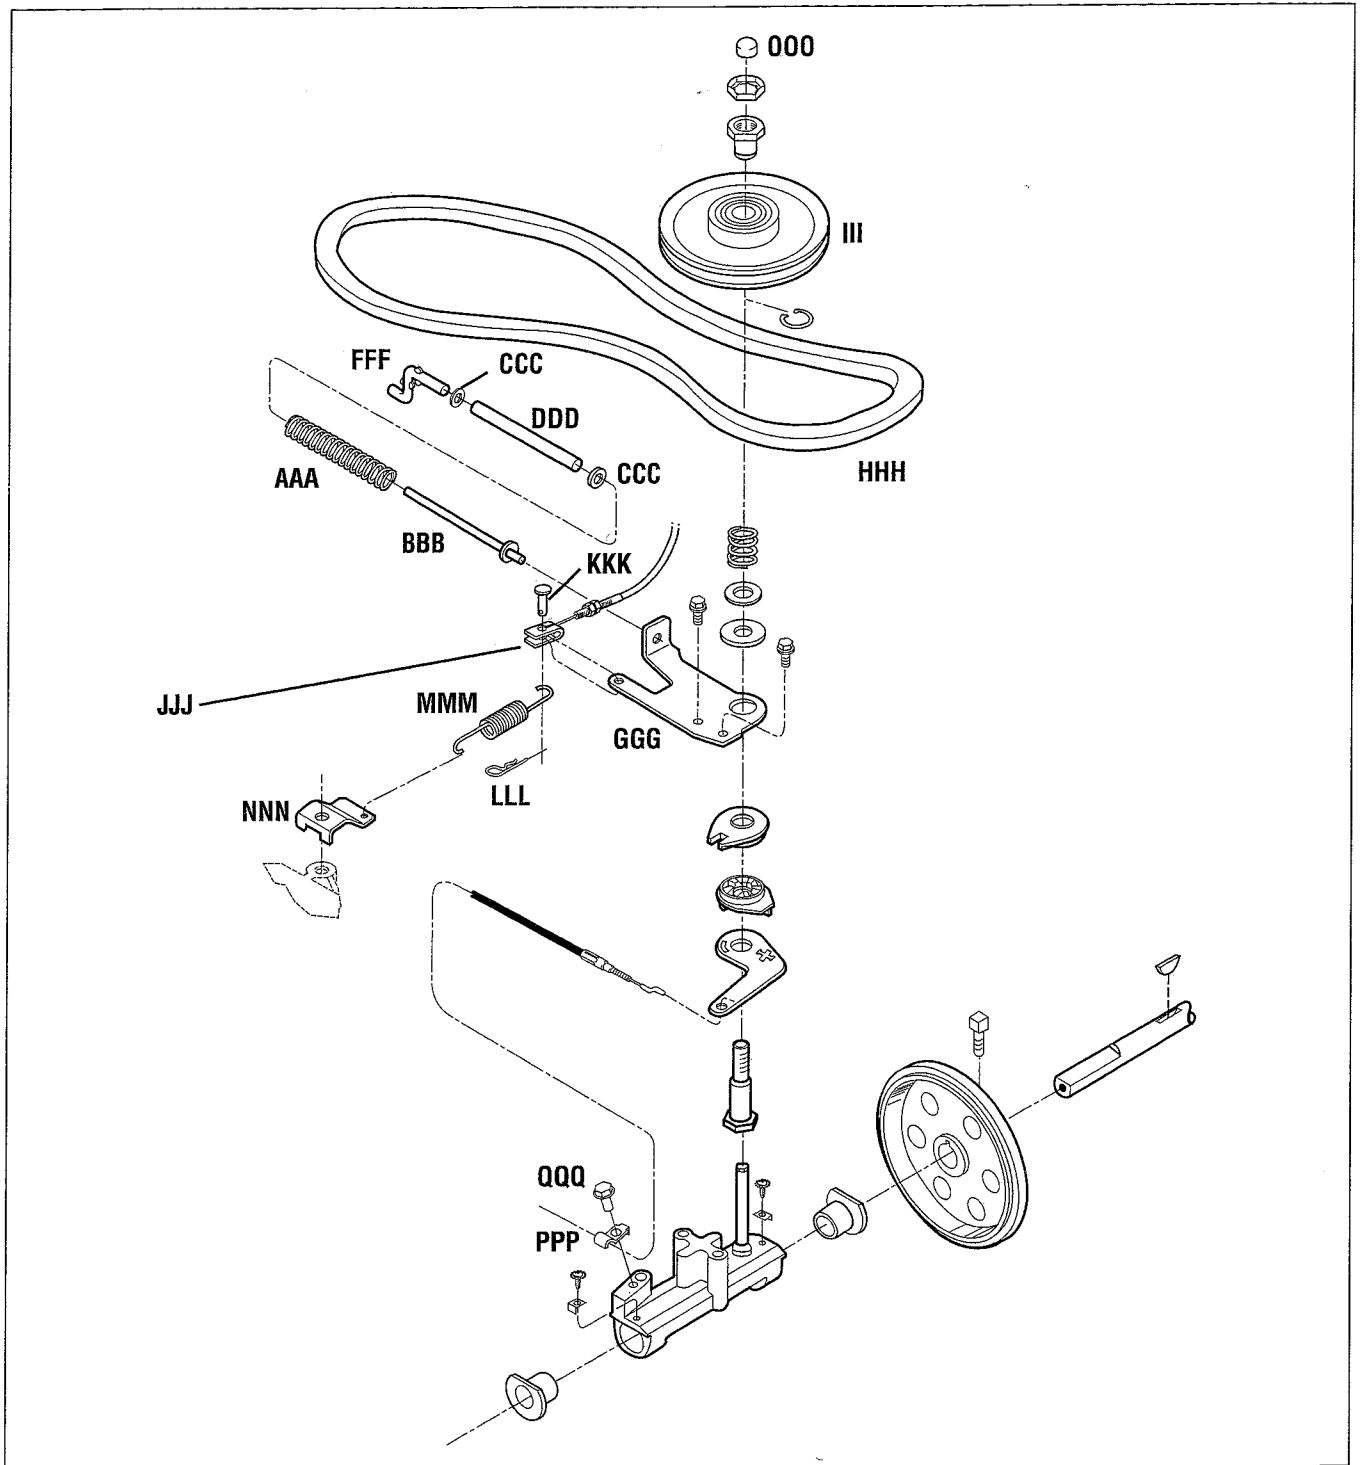

Fig. 13
3. Refer to Fig. 13 and assemble the new belt tensioning assembly as follows:
4. Install the clevis (JJJ, Fig. 13) at the end of the speed control cable onto the carrier anchor plate (GGG) using a hitch pin (KKK) and the previously removed hairpin cotter (LLL). Make sure that the slot in the clevis faces up.
5. Hook carrier tension spring (MMM, Fig. 13) to the hitch pin under the carrier anchor plate (GGG), but above the speed control clevis (JJJ). Route spring under the clutch engagement cable and attach spring to mounting bracket (NNN). Stretch spring and install mounting bracket over the left side deck embossment that accepts the cover mounting screw.
8. Adjust friction disc to sheave gap by following Step "L" on page 32 of the new Owner/Operator Manual included with this kit. Be sure to install the black plug cap (OOO, Fig. 13) on the carrier sheave post.
9. Install the previously removed clutch cable clamp (PPP, Fig. 13) and screw (QQQ) onto the carrier, with the step in the new cable conduit butted up against the back side of the clamp. CAUTION: THE SCREW IS SELF-THREADING. BE CAREFUL TO ONLY TIGHTEN THE SCREW SNUGLY. DO NOT OVERTIGHTEN!